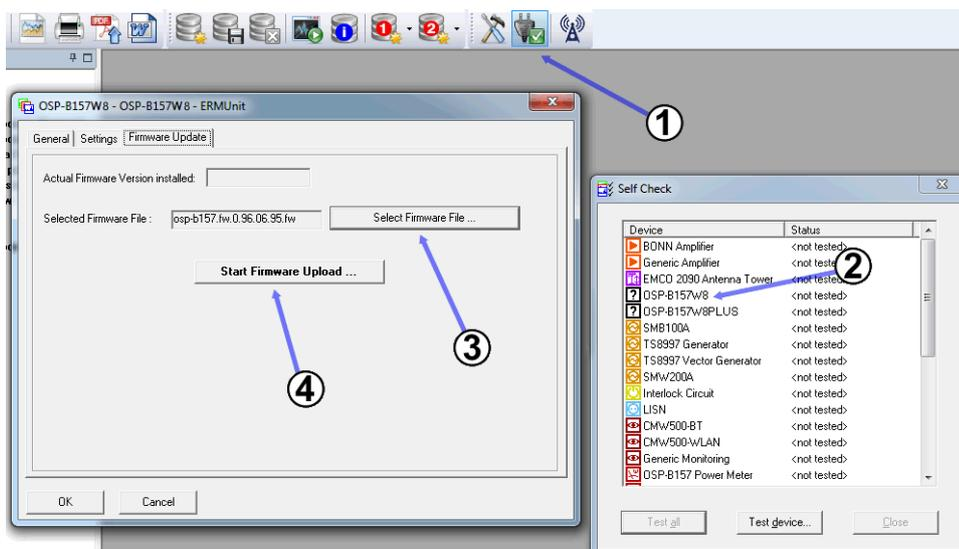

Figure 3-7: Firmware installation or update in R&S WMS32
For installing or updating the firmware of the R&S OSP-B157W8 or R&S OSP-B157W8PLUS, use the R&S WMS32 software package in the R&S RF Test Suite. Click "Self Check" (labeled (1) in Figure 3-7) to open this dialog: